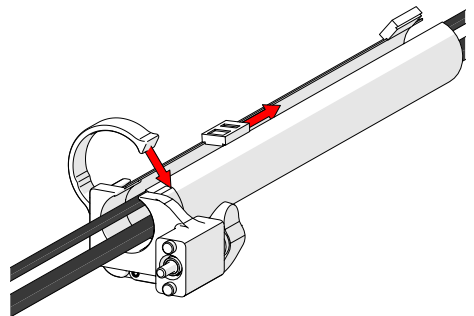

Fig. 204 - Zip to close
2. Follow the cable placement, zipping the tube closed (*Fig. 204*).